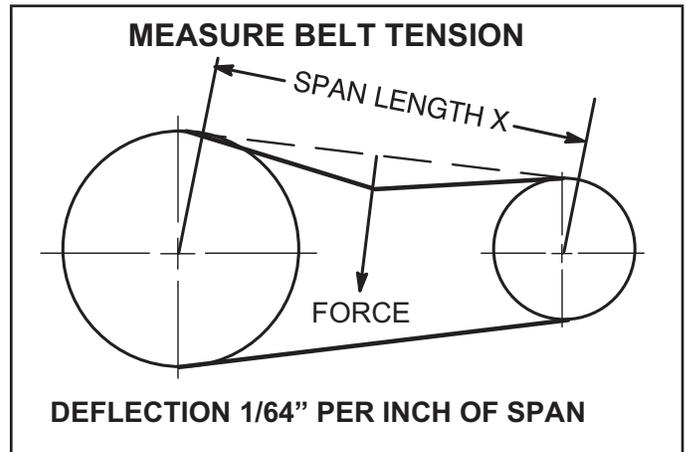

FIGURE 15
- 1 - Measure span length X. See FIGURE 15.
- 2 - Apply perpendicular force to center of span (X) with enough pressure to deflect belt 1/64" for every inch of span length.